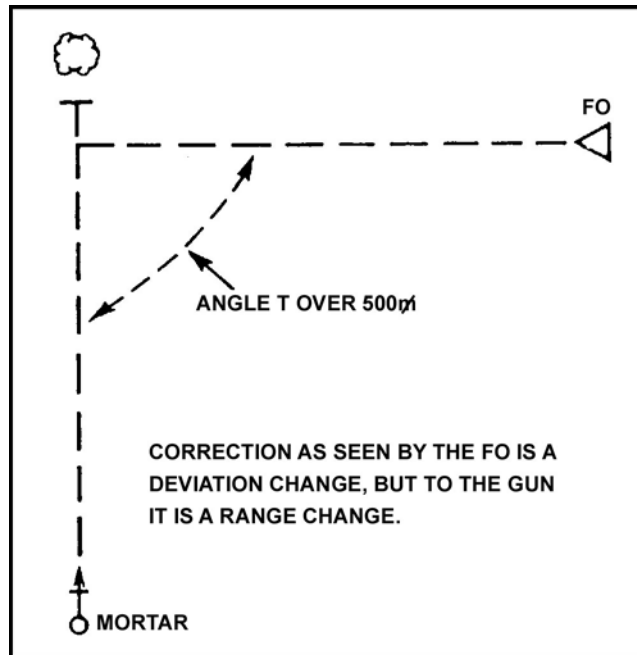

Figure 2. Angle T over 500 mils.
2. Angle T becomes significant when it reaches 500 mils. At that point, range changes, with respect to the G-T line, begin to appear as deviation changes to the FO. It is an uncorrectable ballistic characteristic of mortars that range probable error (the statistical uncertainty as to exactly where along the G-T line the round will impact) is fairly large. A round could easily land 25 meters over or short of a target when firing the same data. Deviation probable error is small by comparison. When angle T is over 500 mils, range probable errors begin to appear as deviations to the FO. Therefore, the FDC informs the FO when angle T is between 500 and 2700 mils (Figure 2).